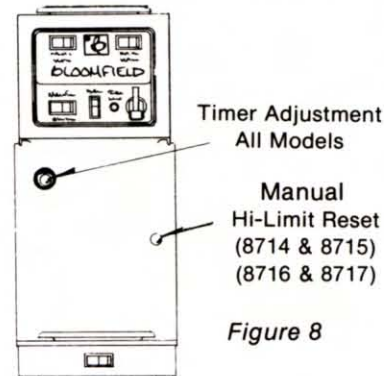

Figure 8
- c. Remove plug button from access hole with knife blade. See Figure 8 on Page 4.